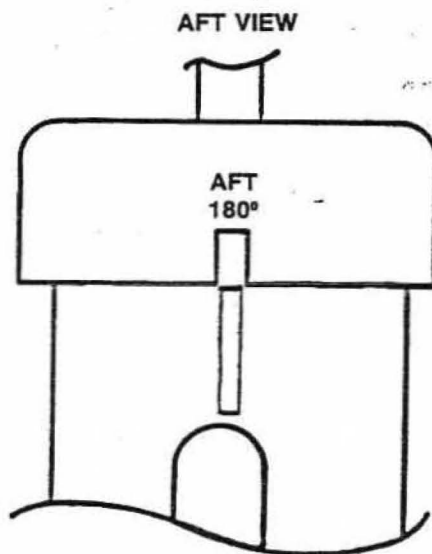

Figure 3B. Alignment of wind vane dust shield.
- B. Hold the dust shield in place. Then, if the staff will be installed pointing aft as recommended, mount the vane on top of the dust shield pointing over the staff (see Figure 3B). If the staff will point to the bow, the vane must point to the bow.